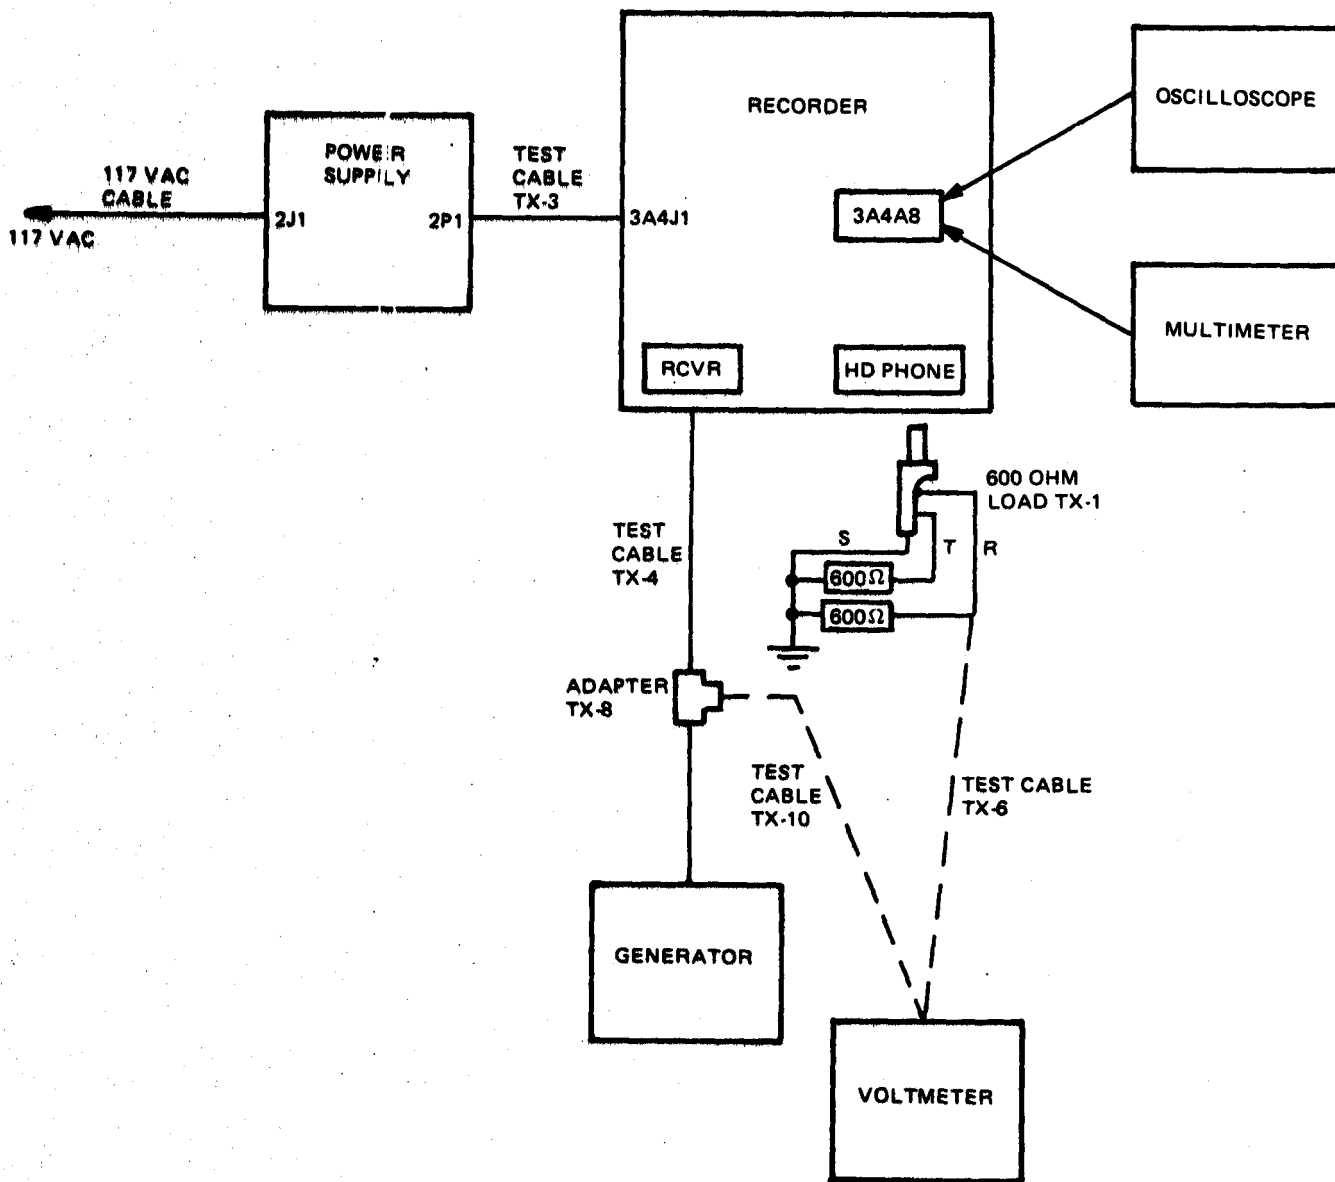

Figure 3-14. Meter Drive Circuit, Equipment Setup
- (1) Remove recorder housing, refer to paragraph 3-25.
- (2) Connect equipment as shown in figure 3-14.